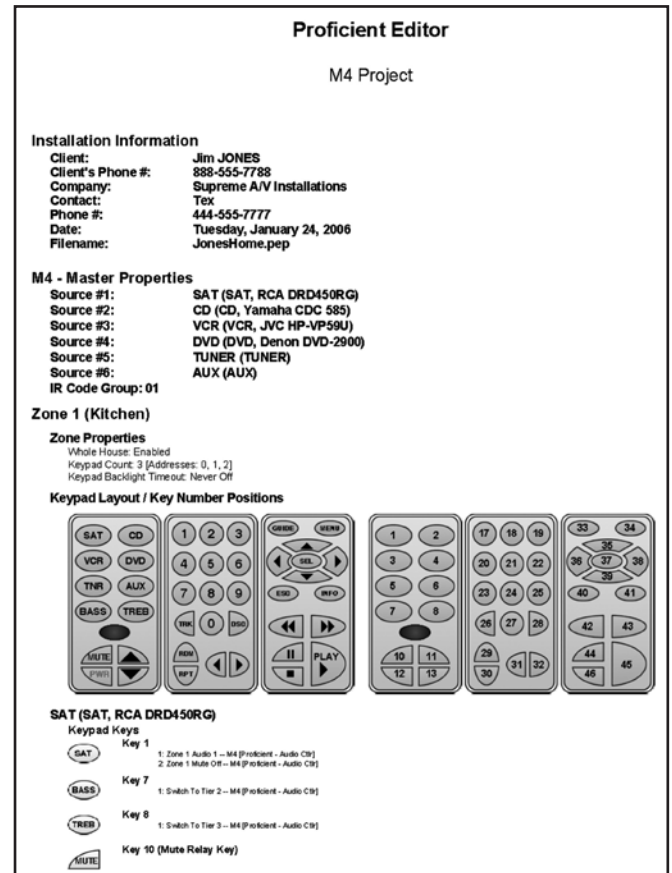

Figure 53 Project Printout, 1st Page
3. Next are the Zone Properties, followed by Zone Keypad Layout displays. Zone 1 is shown first with its Properties, followed by illustrations of each key button and the command descriptions next to them. See Figure 53 for a typical print out of the first page.